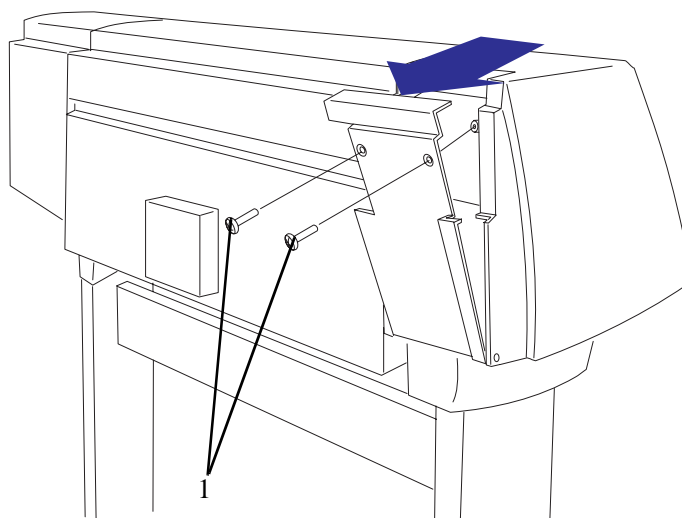
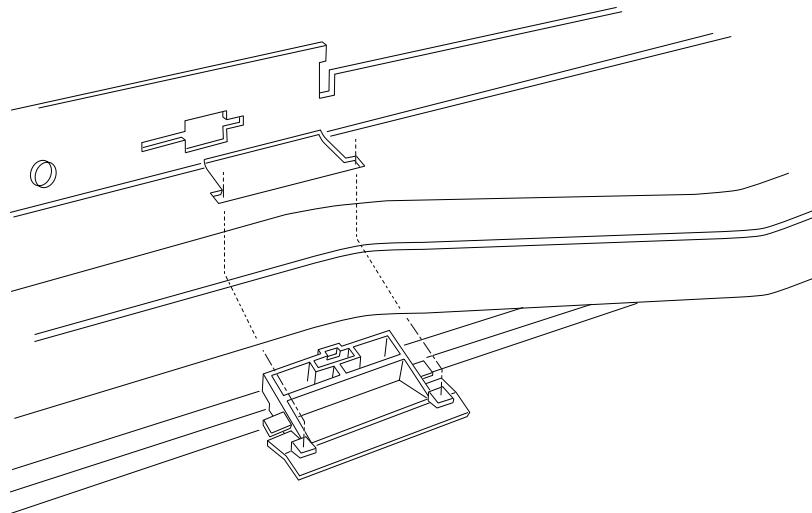

Figure 71: Rear Left Hand Cover
Figure 73: Leak Detector
Refer to Figure 71 to Figure 73.
2. Open the door at the back of the left hand cover by removing two T15 screws (item 1) (refer to Figure 71).
6. Unclip the Leak Detector from the Printer and remove as shown in Figure 73.